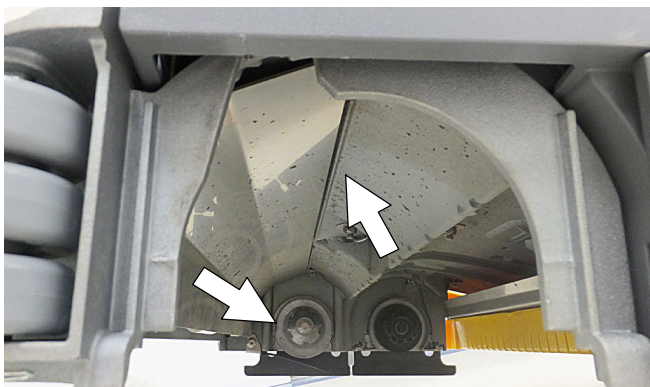

FIG. 123
- Cylindrical scrub head - Remove debris buildup from underside of scrub head, including the idler plates and drive hubs (Figure 123).